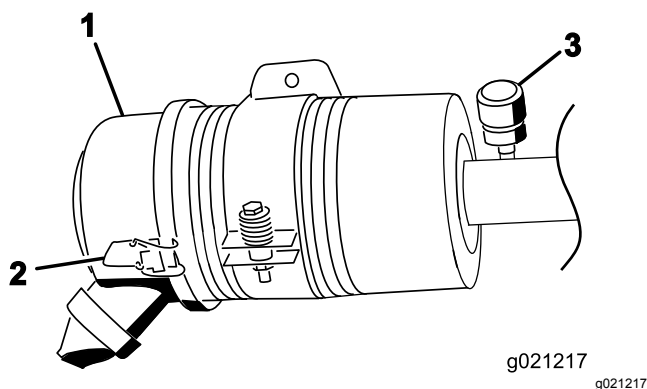

Figure 69
Service the air cleaner filter only when the service indicator (Figure 69) requires it. Changing the air filter before it is necessary only increases the chance of dirt entering the engine when the filter is removed.
1. Release the latches securing the air cleaner cover to the air cleaner body (Figure 69).